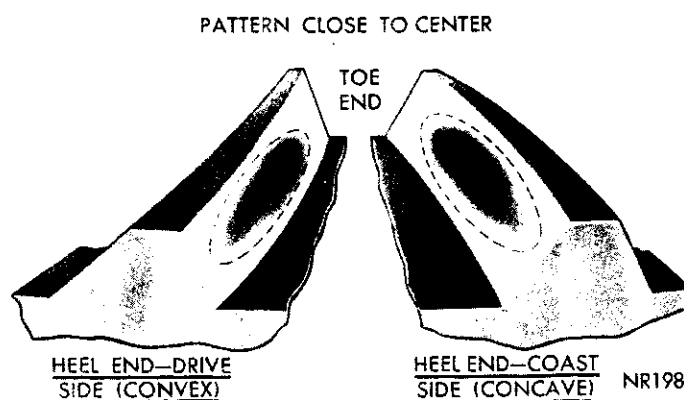

Fig. 25—Desired Tooth Contact Pattern Under Light Load
(10) Tighten spreader tool nut sufficiently to obtain .012" to .015" movement of dial indicator to permit installation of differential case assembly. Do not spread over .020 inch.
(11) Remove dial indicator.
(12) Holding differential assembly with bearing cups on respective bearing and selected preload spacers, carefully install differential and ring gear assembly into axle housing.
(13) Loosen spreader tool nut and remove spreader.
(14) Install differential bearing caps on respective sides and alternate tightening bolts to 40 foot-pounds.
(15) Install dial indicator to axle housing with indicator parallel to drive gear. With pointer of indicator contacting the drive side of ring gear tooth, measure drive gear backlash. At least four readings should be taken on teeth approximately 90° apart to find the point of least backlash, and mark the tooth.
(16) At point of minimum backlash, dial indicator should read .004 to .007 inch. If reading is not within this tolerance, it will be necessary to refer to chart and Install Differential Spacers and re-check backlash to bring within proper specifications.
(17) Apply a thin film of red or white lead on both the drive and coast side of the drive gear teeth. Rotate drive gear one complete revolution in both directions while prying with a round bar or screwdriver between the casting and differential case flange. This action creates a load and produces a distinct tooth contact pattern on the drive gear teeth.
(18) Observe the contact pattern on the drive gear teeth and compare with those in (Fig. 25) to determine if pattern is properly located. If pinion depth of mesh and gear backlash are correct, the heaviest most distinct part of contact pattern should be cen-